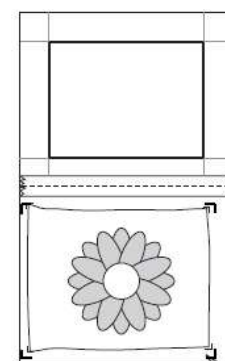

fig.4
6. Open the mat again, be careful not to move the position of the artwork. With a pencil, make several registration marks near the corners on the backing for future alignment - see fig. 4.